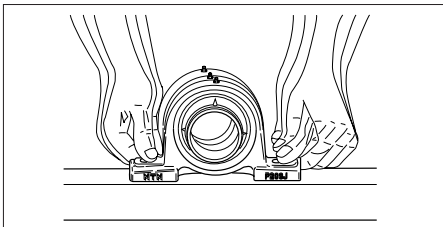

Fig.8.1
- 2) Bearing housing mounting face must be as flat and smooth as possible (when placing the bearing housing on the frame, the housing must be stably seated without any excessive play) (**Fig.8.1**).